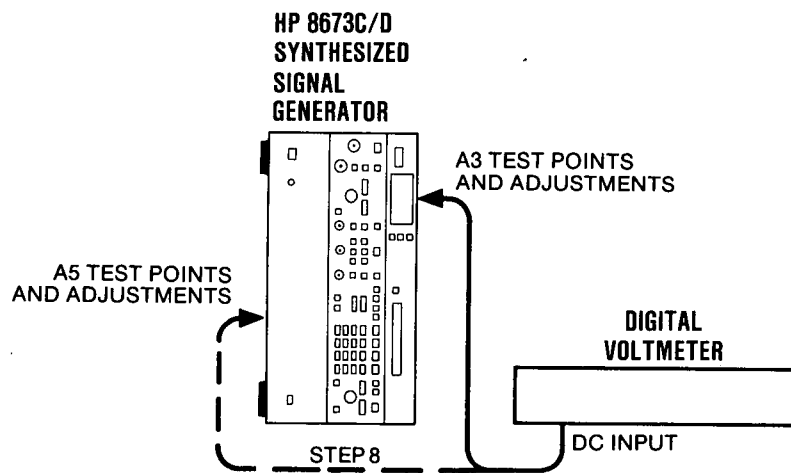

Figure 5-4. Power Supply Adjustment Test Setup
2. Place the A5A9 Bd in the test position (Service Sheet B Disassembly). Place the instrument up on its side for easy access to all adjustments. See Figure 5-4.